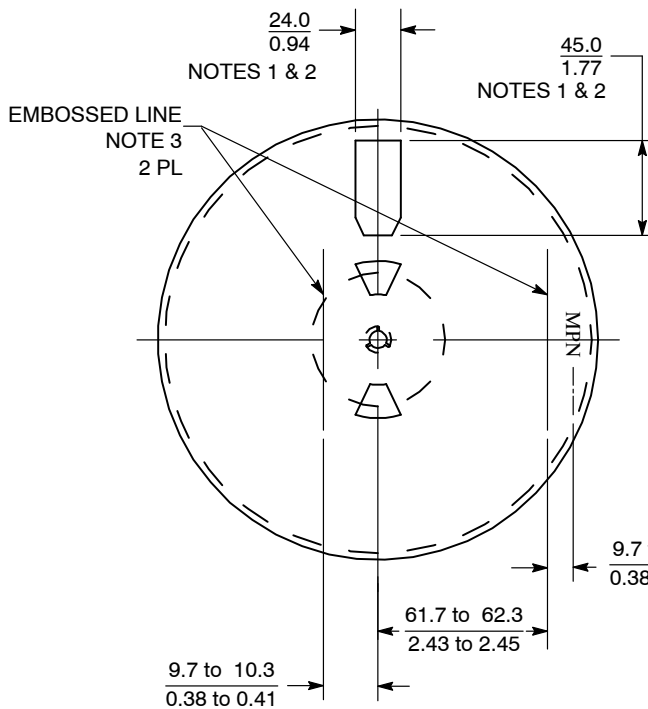

Figure 40. Front View of 178 mm (7.0 in) Reel
- If there are any flange openings on the front side of the 178 mm (7.00 in) reel they must be designed in locations so that two of the 41.3 mm (1.65 in) ON Semiconductor barcode labels can be applied parallel to each other as in Figure 40.
- Flange opening on the front and the back of the reel are a supplier option but must meet all of the requirements in Note 1. The preferred size for the 176 mm (7.0 in) reel is shown in Figure 40.
- The embossed lines on the reel are a option. If the lines are used they must be located as in Figure 40 and 41. They must be a minimum 38 mm (1.50 in) long. The thickness is a manufacturer's option and not to be used for inspection criteria.